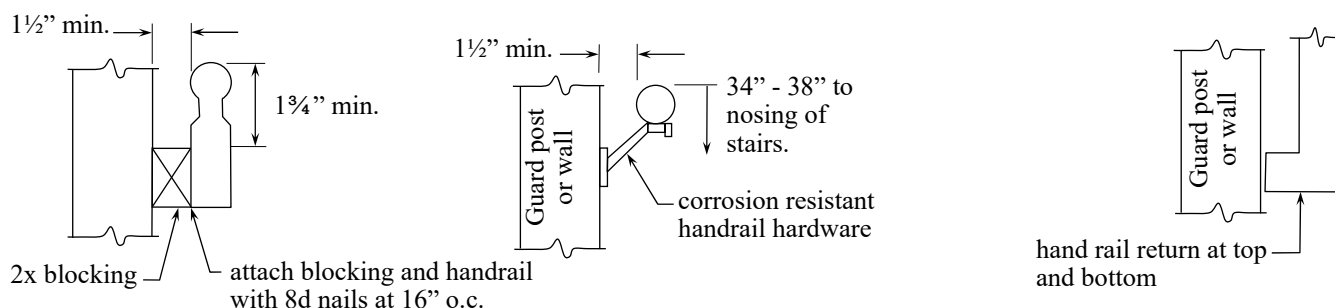

Figure 42: Handrails
- Handrails shall be attached to a stair guard or exterior wall acting as a barrier as shown in see FIGURE 42.